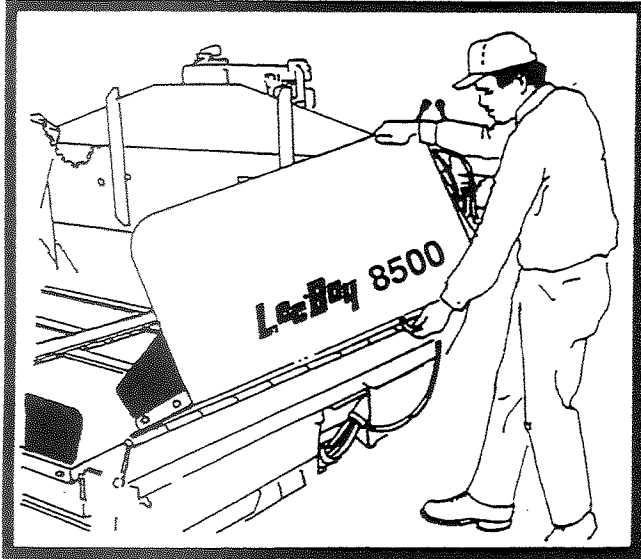

FIGURE 30
1. Fold hopper wings all the way in and pull bolts out. Grab top wings and pull out 5" or 6", then pull bottom handle out til wing knuckles out. To let wings down just pull on top of wing and let down to where bolts will go in. See figure 30.